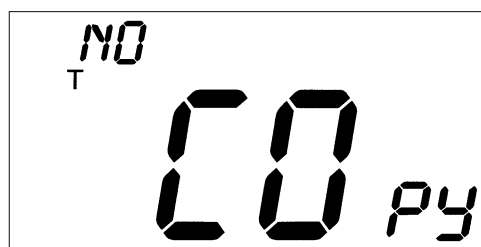

Fig. 6 — Copy Command Display
11. The Copy command can be used to copy the previous day's schedule if the schedules are the same. The copy command becomes available after all the occupied periods are programmed in a day. Use the UP ARROW to change the copy command to YES. Use the DOWN ARROW to change the copy command to NO. Press the Mode/Next button when the choice has been made. See Fig. 6.